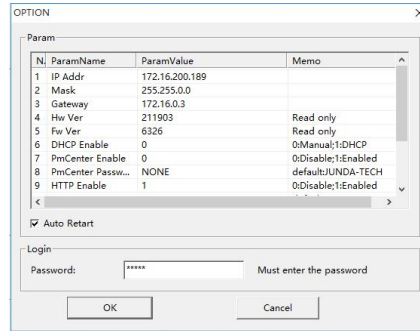

Figure 2
③ Select the device to be modified in the list (the default IP is 192.168.0.100), and click "set"; Or double-click the device you want to modify. The option dialog box pops up, as shown in Figure 2: